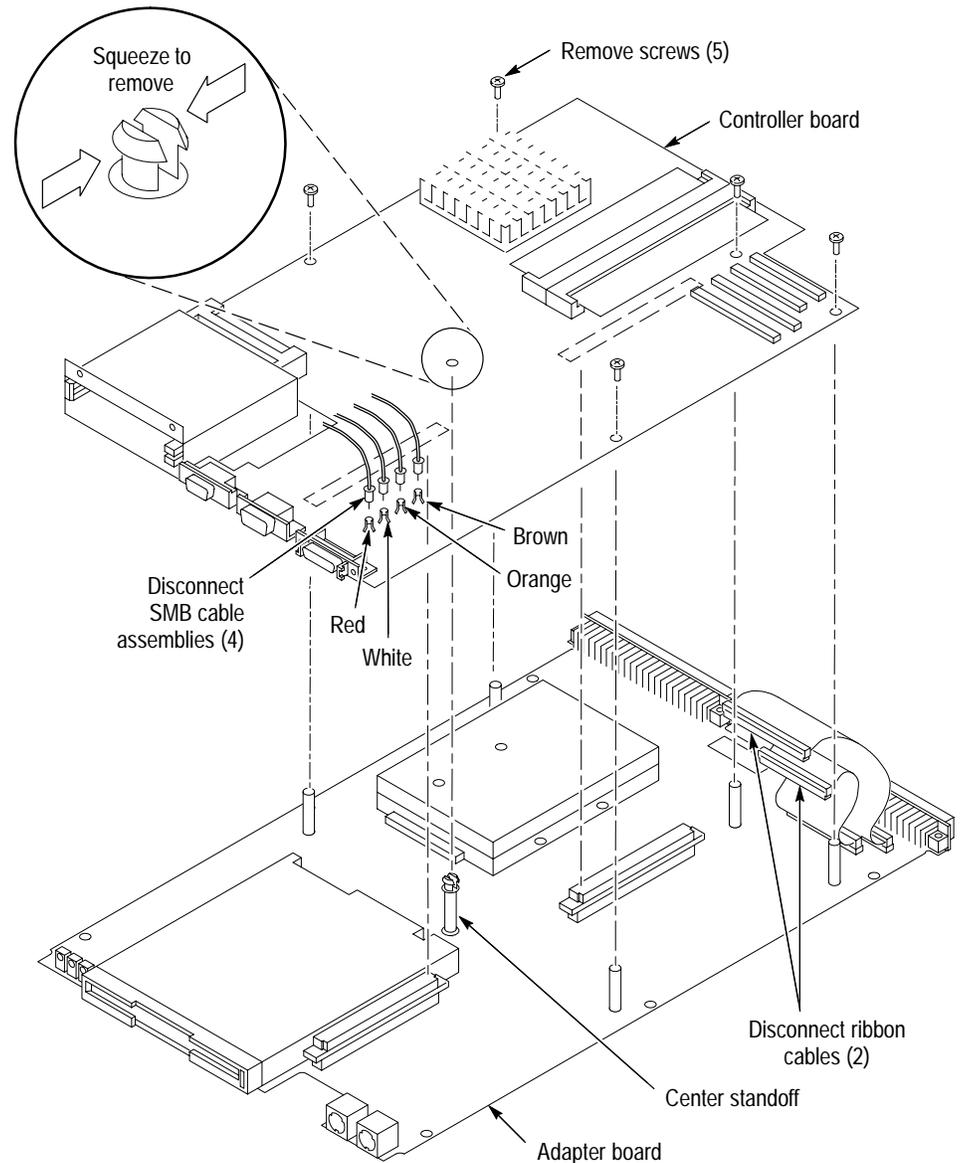

Figure 9: Controller board and Adapter board interconnection
- 12.** Carefully turn the subassembly over and disconnect the four SMB cable assemblies on the Controller board. See Figure 9 and Table 2 for the color code placement of the four SMB cable assemblies.
The hard disk drive is mounted to the Adapter board, which must be separated from the Controller board in order to replace the hard disk drive. Refer to Figure 9 and follow these steps:
4. Connect the Controller board to the Adapter board by aligning the two connectors between the Controller board and the Adapter board. Locate the center standoff (see Figure 9 on page 21) and center it on the hole on the Controller board. Carefully apply pressure to both boards until the two connectors engage.
2. Carefully turn the subassembly over and connect the four SMB cable assemblies to the four SMB connectors on the Controller board. Figure 9 on page 21 shows the locations for plugging in the four connectors. Table 2 identifies each connector by color code and signal name.